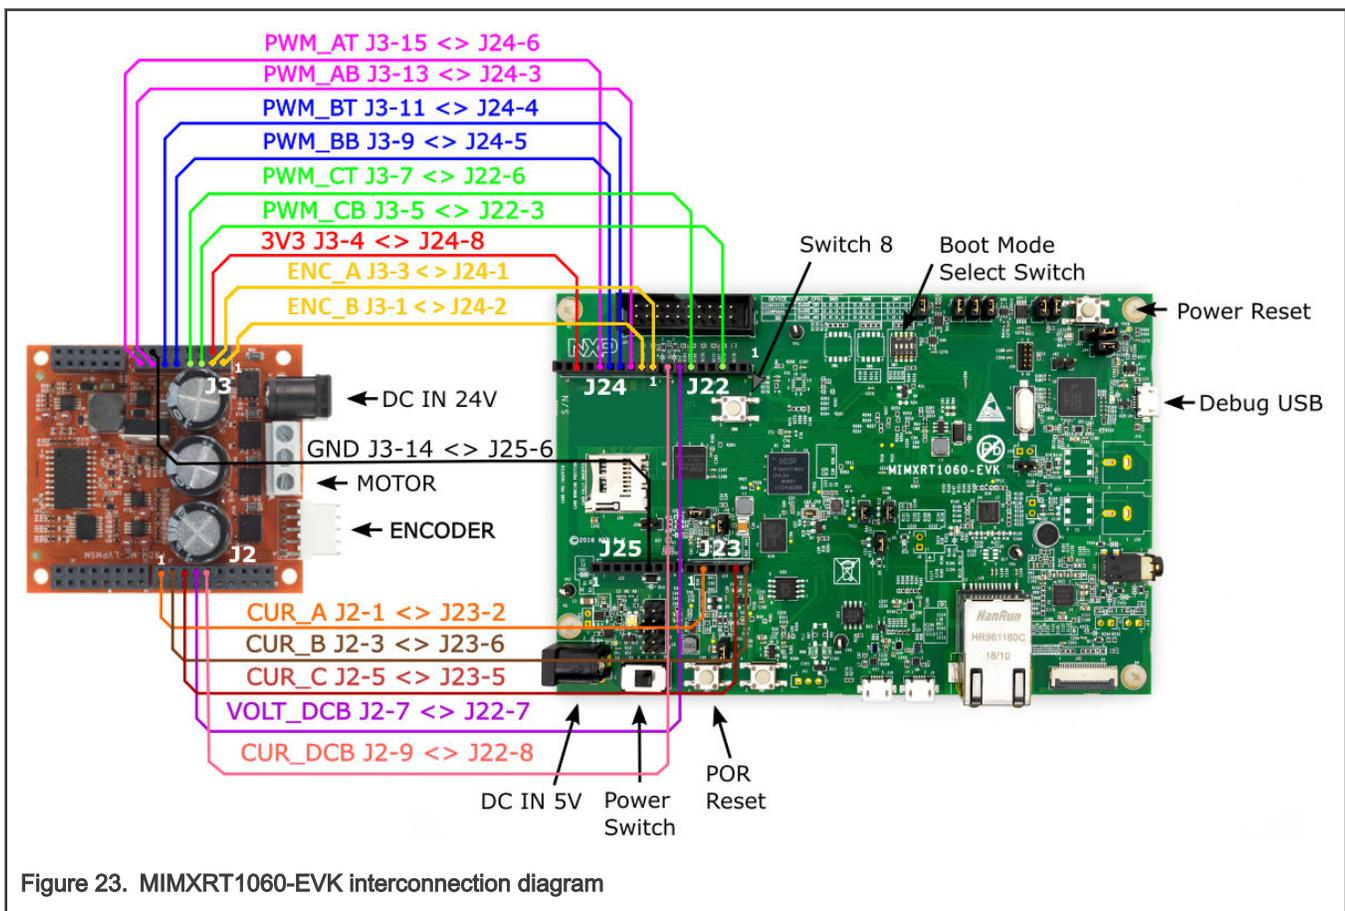

Figure 23. MIMXRT1060-EVK interconnection diagram
1. Wire the FRDM-MC-LVPMSM power stage to the MIMXRT1060-EVK board according to the pin assignment (Table 11) and the interconnection diagram (Figure 23).